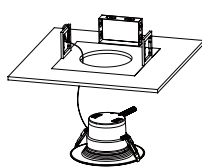

Fig. 3
- Step 3: Attach the carabiner safety clip to the existing fixture housing (Fig. 3).